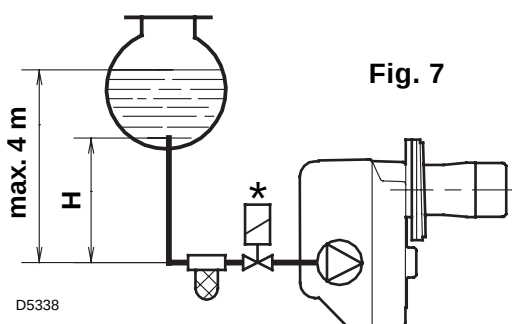
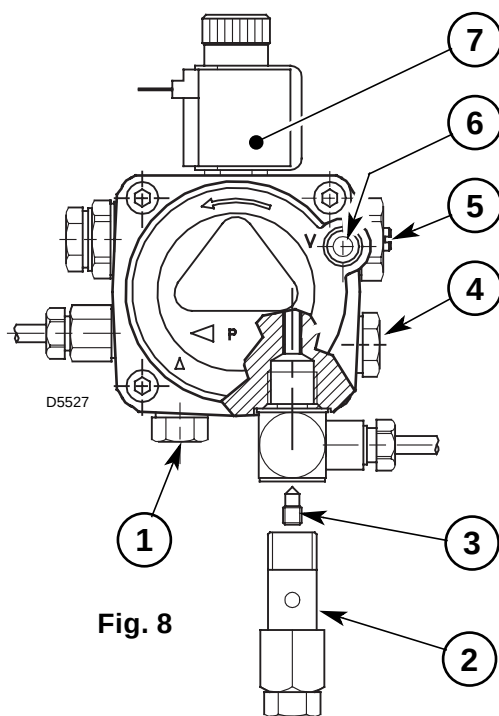

Fig. 7
Fig. 8
In order to obtain one pipe working it is necessary to unscrew the pin (2), remove the by-pass screw (3) and then screw again the pin (2), (see fig. 8).
On the system in fig. 7 it is sufficient to loosen the suction gauge connection (6, fig. 8) and wait until oil flows out.
The pressure gauge must be mounted in place of plug (4, fig. 8, page 4).
Should it be necessary to re-set or alter such pressure, this can be done, by adjusting screw (5, fig. 8, page 4).